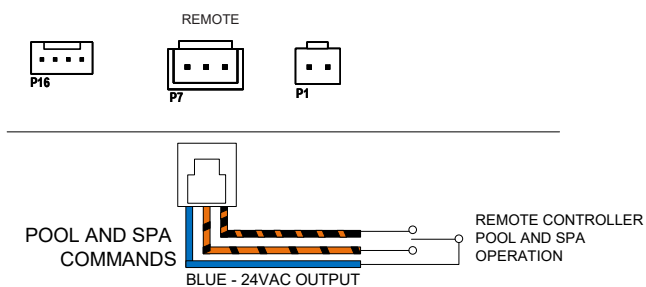

Figure 61. 3-Wire Remote Harness Installation
5. On the 3-wire remote interface harness, connect the BLUE wire to one side of the remote automation controller and connect the ORANGE/BLACK wire for "SPA" operation and the BLACK/ORANGE wire for the "POOL" operation. See Figure 61.
6. Install the 3-wire remote interface harness to the "P7" connector and turn power ON to the heater. See Figure 61.
10. For 3-wire control, connect the BLUE wire to one side of the remote controller and connect the ORANGE/BLACK wire for "SPA" operation and the BLACK/ORANGE wire for the "POOL" operation. See Figure 61.